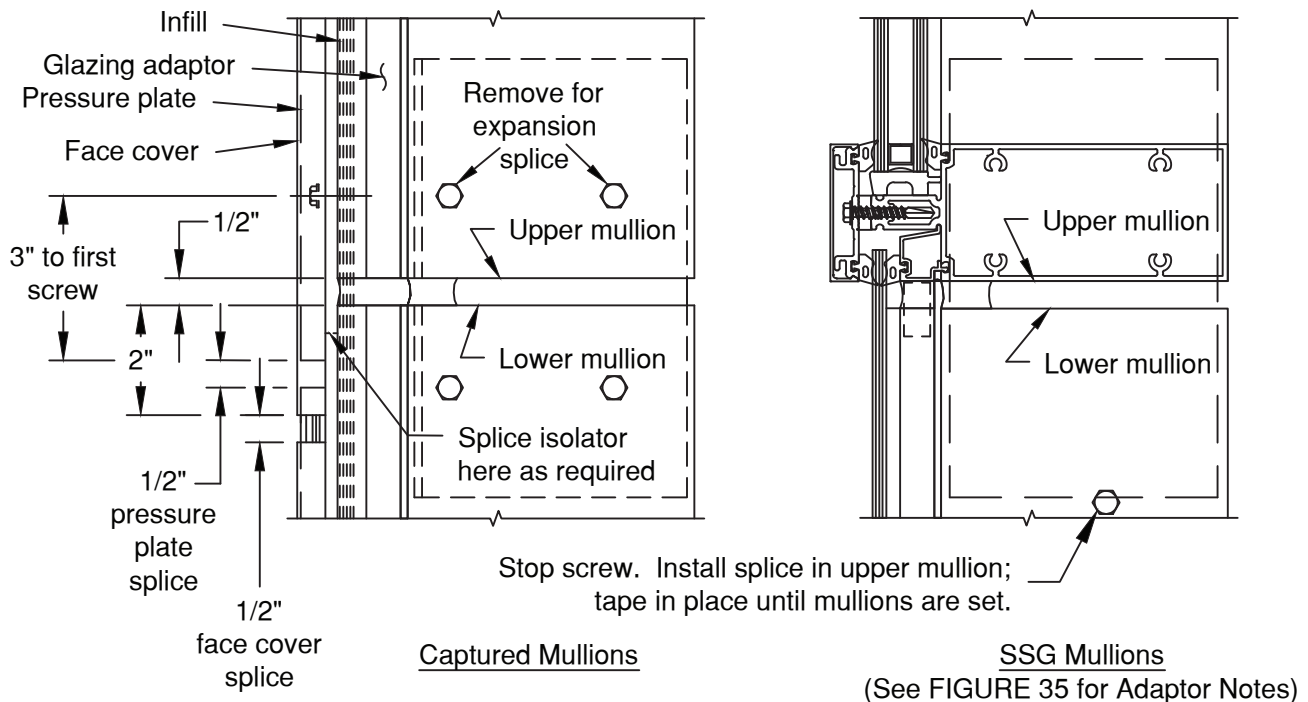
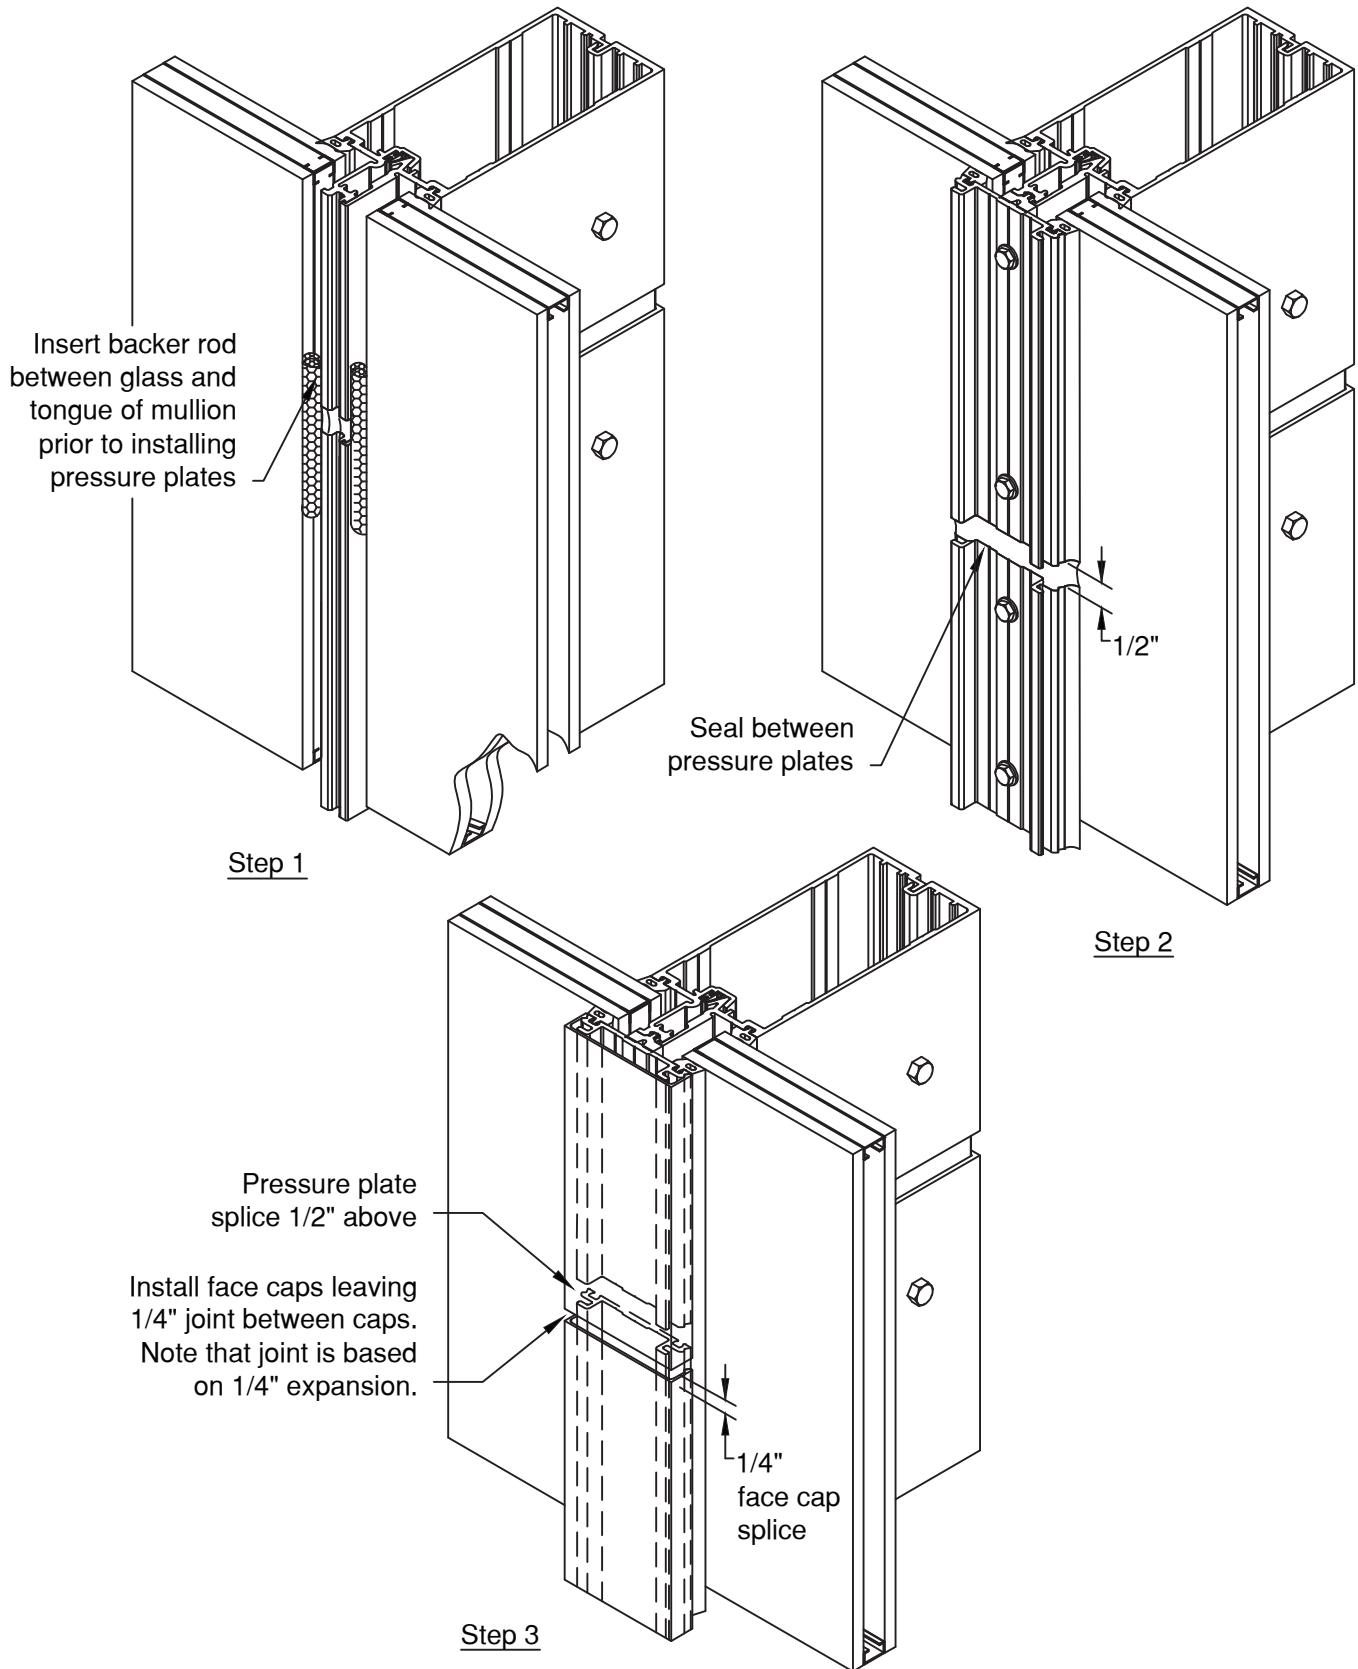

FIGURE 36
Figure 37
- B.4 Offset pressure plates and face covers per **FIGURE 36, page 15**, sealing pressure plate and face cover joints as shown in **FIGURE 37, page 15.**